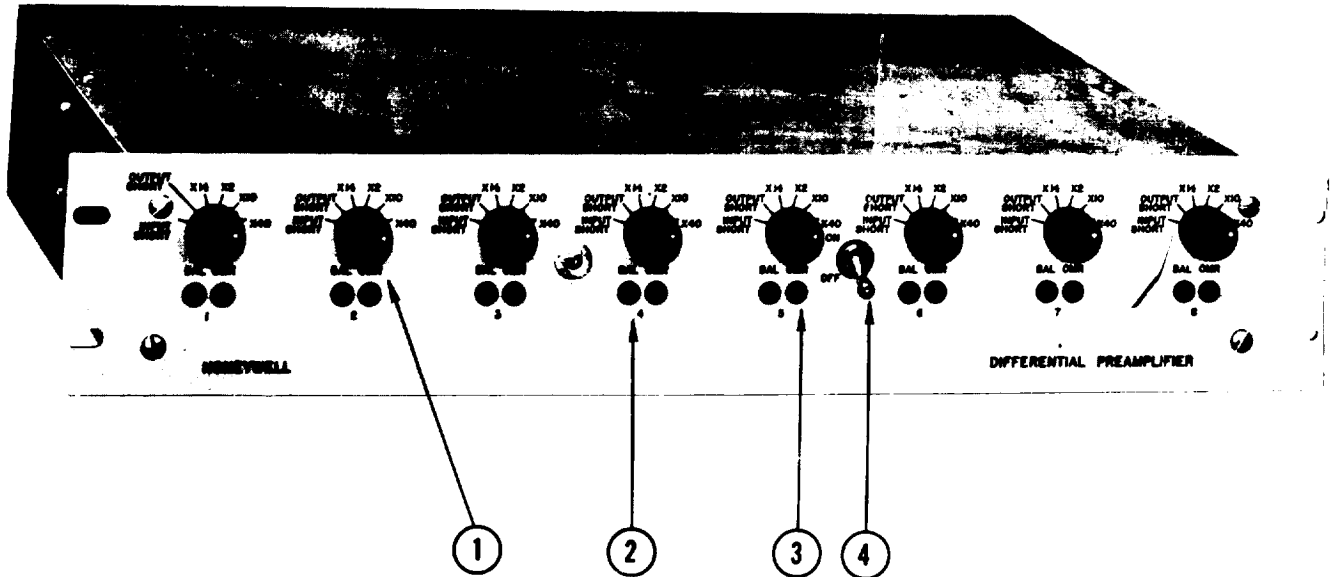

Figure 3-1. Differential Preamplifier Controls
- A. **FRONT PANEL CONTROLS.** Refer to Figure 3-1. The following controls are located on the front panel of the Differential Preamplifier and perform the functions listed. Paragraph numbers coincide with index numbers of Figure 3-1.